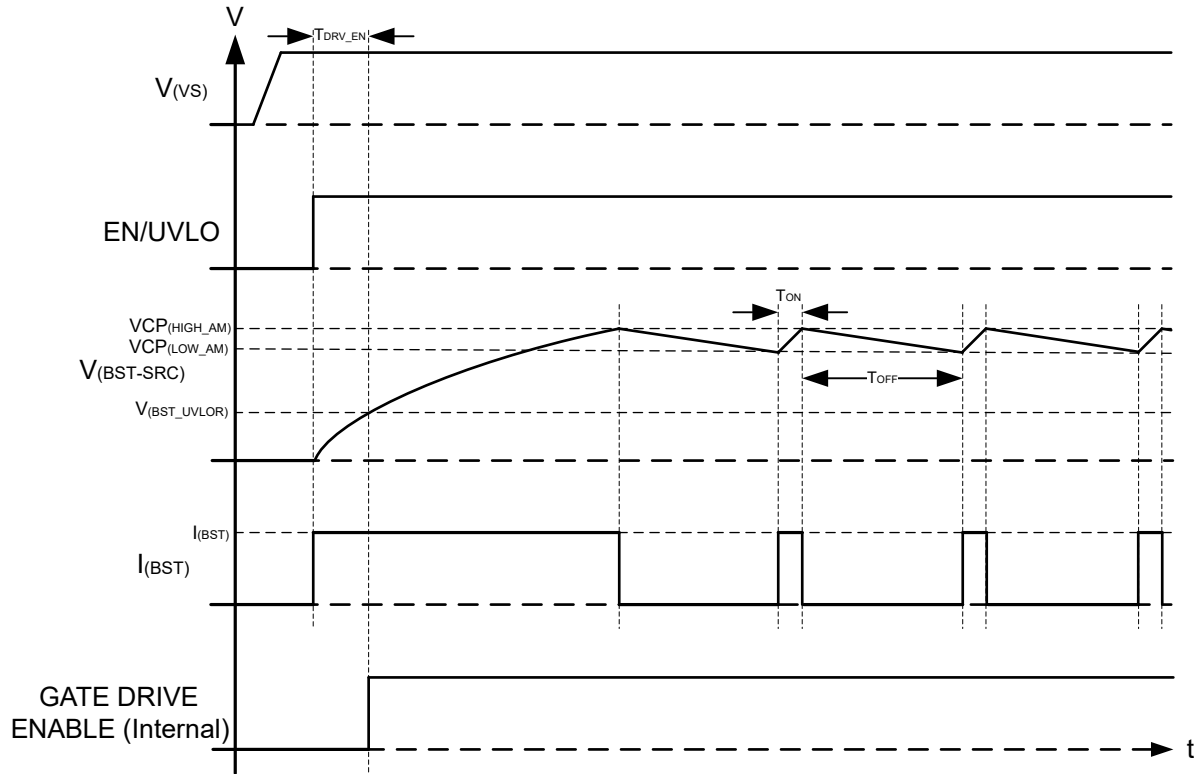

**Figure 8-1. Gate Driver**
Figure 8-1 shows a simplified diagram of the charge pump and gate driver circuit implementation. The device houses a strong 0.5A/2A peak source/sink gate driver (GATE) for main FETs Q1, Q2 and 100μA/0.39A peak source/sink current gate driver (G) for bypass FET Q3. The strong gate drivers enable paralleling of FETs in high power system designs ensuring minimum transition time in saturation region. A 12V in active mode, 600μA charge pump is derived from VS terminal and charges the external boot-strap capacitor,  $C_{BST}$  that is placed across the gate driver (BST and SRC).